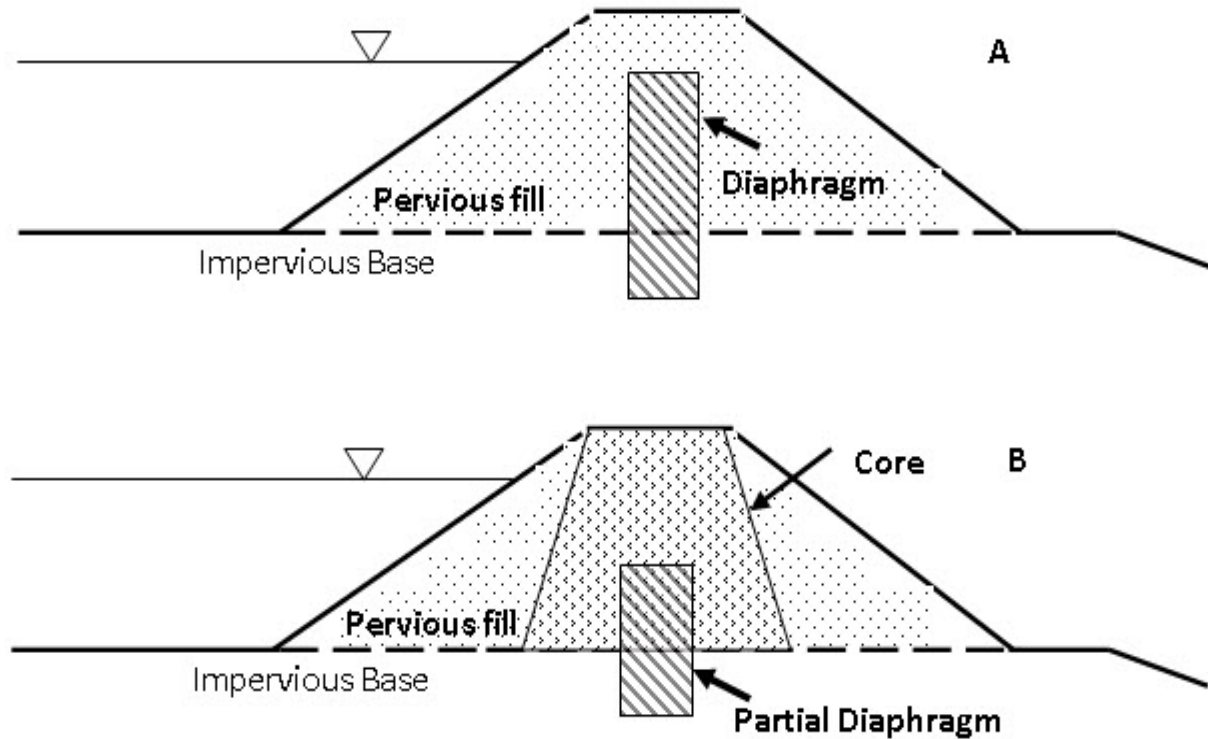

Fig. 23.2. Different Diaphragm typed earthen embankment/dam.
- The bulk of material used for construction of the embankment is pervious. A thin diaphragm of impermeable material like (concrete, steel, butyl etc.) is provided to act as barrier against seepage through the fill. The full diaphragm condition occurs when the upper crest of diaphragm and design water depth are at the same level (see Fig. 23.2 A). There are cases when the full diaphragm is difficult to adopt, partial diaphragm can be adopted in conjunction with core wall (Fig. 23.2 B). The core walls usually are made of the earth with low hydraulic conductivity.